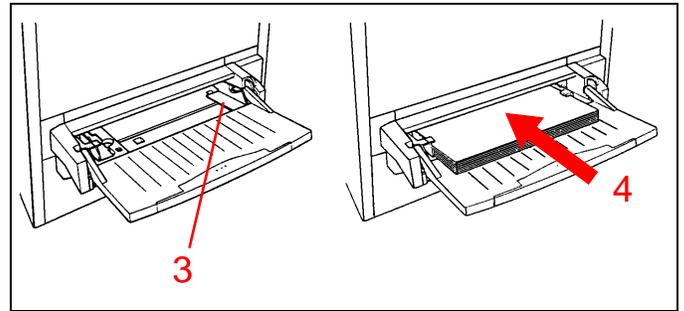

Figure 11
3. See Figure 11. Set the paper guide to the width of the paper being loaded.